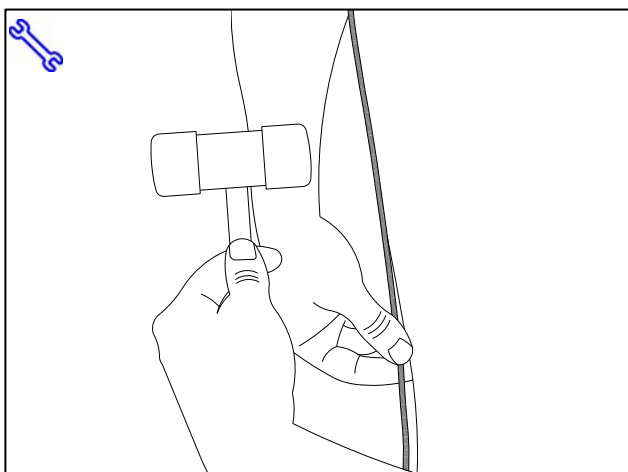

Fig. 1-12
- (n) Once the top of the DEG channel is seated on door edge, continue tapping the channel onto door edge moving toward the bottom of door. Use your other hand to steady and guide the DEG as you go. (Fig.1-12)